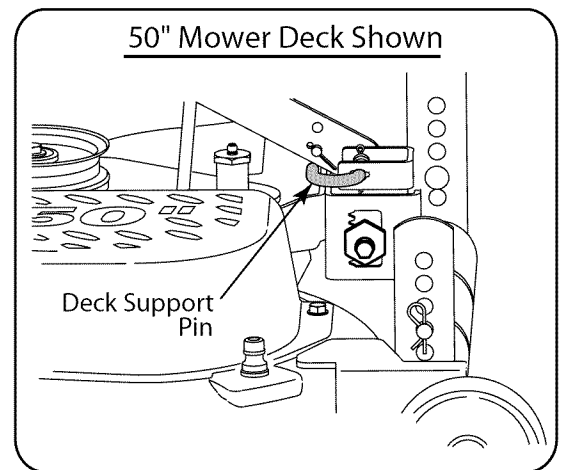

Figure 22
4. Looking at the cutting deck from the left side of the tractor, locate the deck support pin on the rear left side of the deck. See Figure 22.